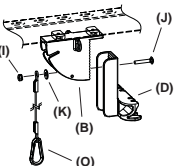

Figure 5
Secure the fixed catch (D) onto the fixed mount (B) using one 1/4-20 carriage bolt (J), one 0.75" O.D. washer (K), safety cable assembly (O), and one kep nut (I). Do not completely tighten, allow for catch adjustment. (See Figure 5) Next, adjust the height of the fixed catch by placing the ladder onto the receiving pin and sliding the ladder forward to what will be the stowed position. Place the bottom rung of the ladder onto the fixed catch.